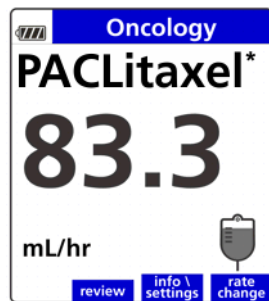

Figure 118. Infusion Running Screen. See important note on page 96.
1. At the Infusion Running screen, press the **rate change** soft key. See Figure 118.